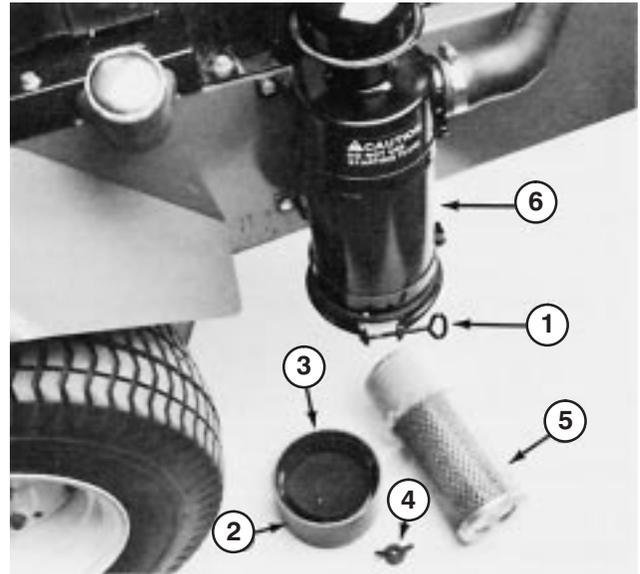

Figure 35
2. Remove wing nut w/gasket and slide filter element out of air cleaner body (Fig. 35).
1. Loosen thumb screw until dust cup and baffle can be removed (Fig. 35). Separate dust cup and baffle (Fig. 35).